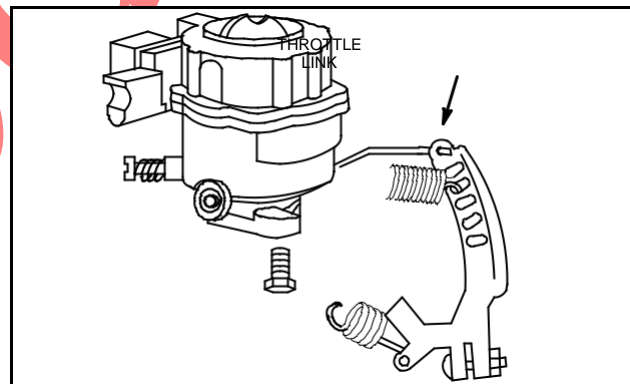

Fig. 12 – Disconnect Throttle Link
7. Disconnect throttle link from governor lever, Then from carburetor, Fig. 12. a. Discard gaskets.